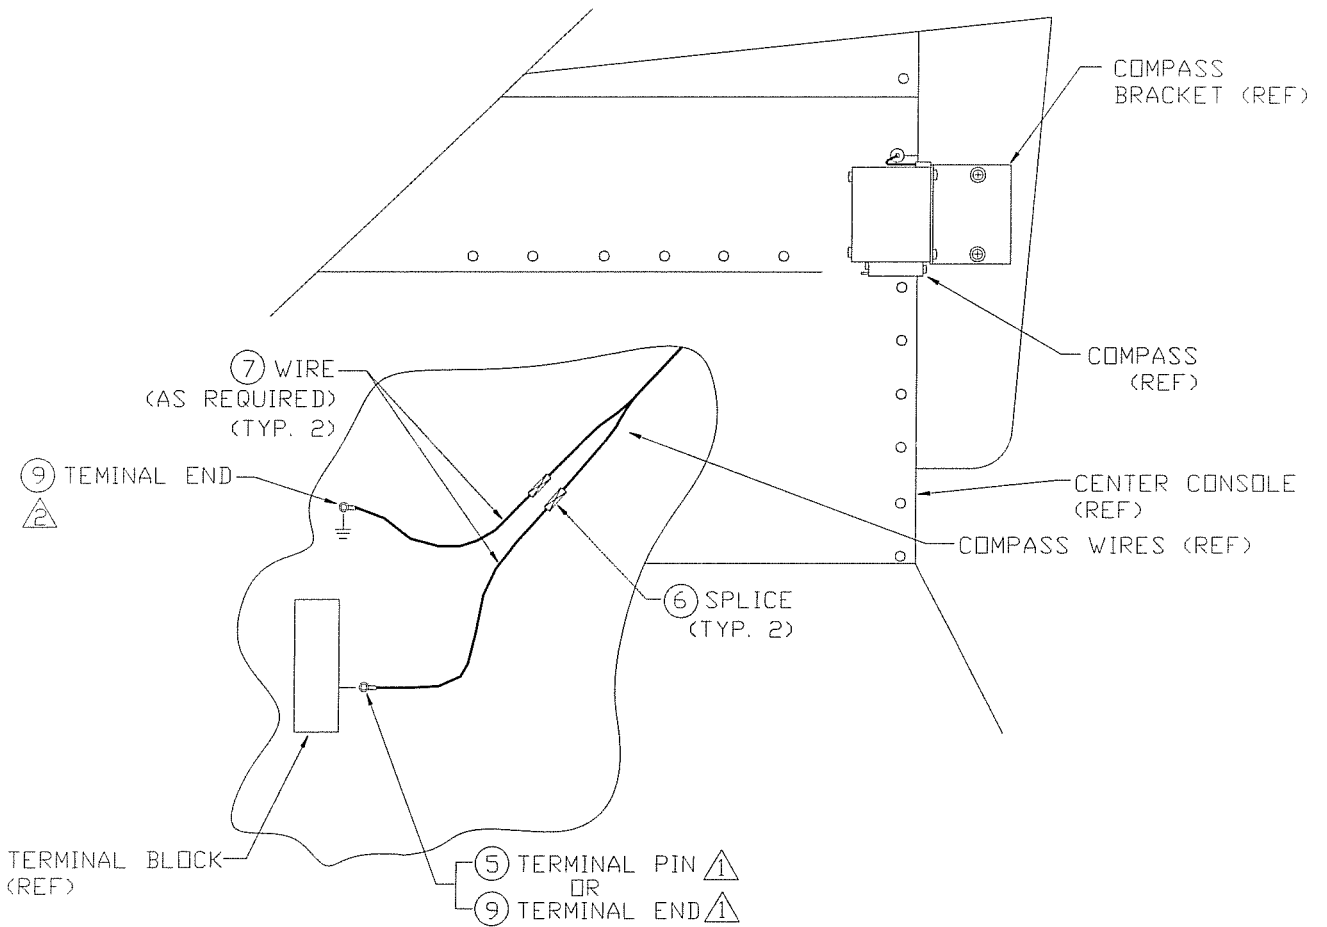

Figure 3. 206LS-200-1/-2 Installations
3.1.2 Disconnect compass wires from the terminal block and ground lug, reference figure 3.
3.2.2 Connect the compass wires to the terminal block and available ground lug, reference figure 3.